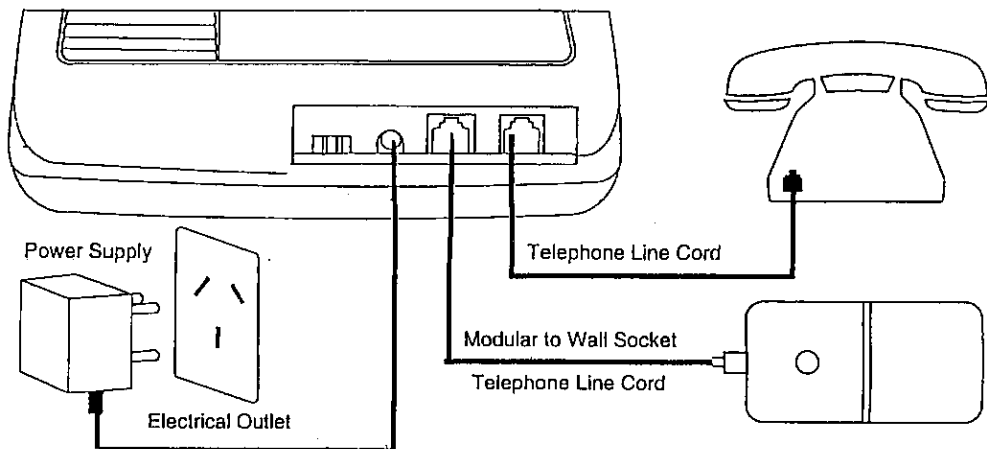

FIG.1
3. Plug the end of telephone cord from the wall to the TEL. LINE jack. (FIG.1)
3. The unit emits a beep tone and the counter counts up from 0 to 42. Then the unit emits a long beep and the counter shows 0, A1, A2, CL alternatively, A1, A2, and CL are reminders that you have not recorded OGM 1, OGM 2, and have not set day/time stamp. (FIG.1)